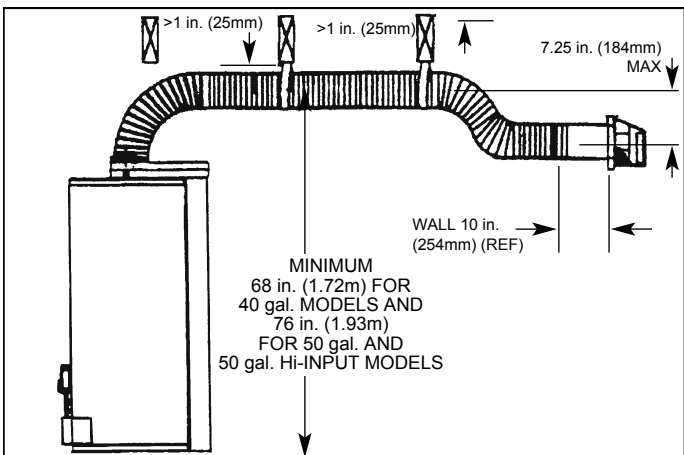

FIGURE 28
- C. The maximum allowable drop from vent center-line to vent termination center-line (Figure 28) is 7.25 in. (184mm).